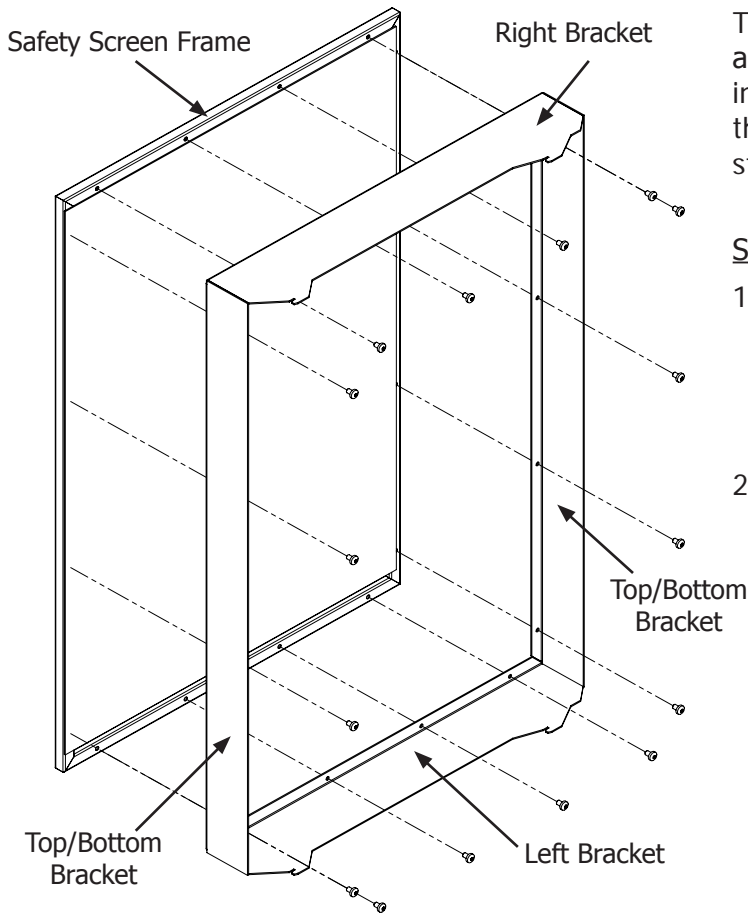

Figure 46: Installing Safety Screen Mounts.
1. Attach the left, right, top/bottom brackets onto the safety screen using a T20 screwdriver and the supplied sixteen (16) #8 T20 screws (see Figure 46). Do not over-tighten the screws, doing so could cause them to strip out of the screen frame.